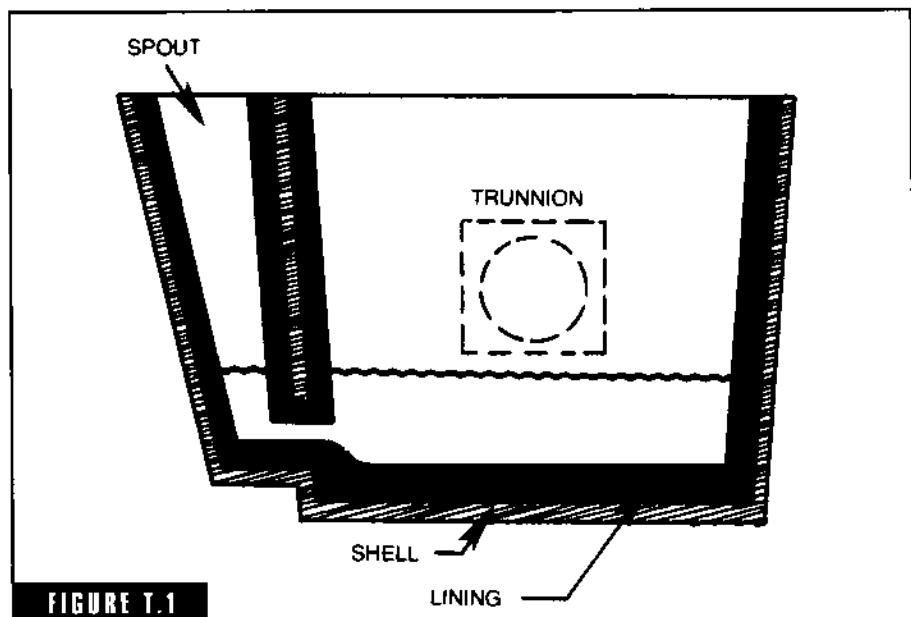

FIGURE T.1
**teapot spout ladle** A ladle designed like a teapot; the metal poured from the ladle comes from the bottom to ensure clean, slag-free metal to the mold (Fig. T-1).